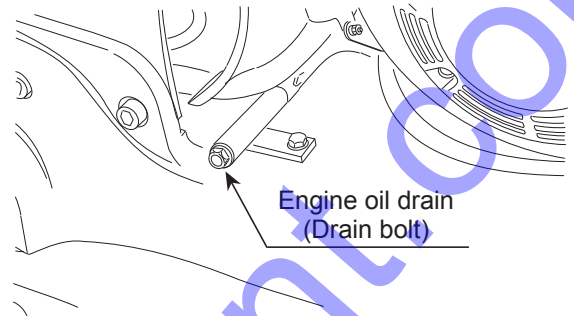

Figure 30. Draining Engine Oil
1. Remove the oil drain bolt (Figure 30), and sealing washer and allow the oil to drain into a suitable container.